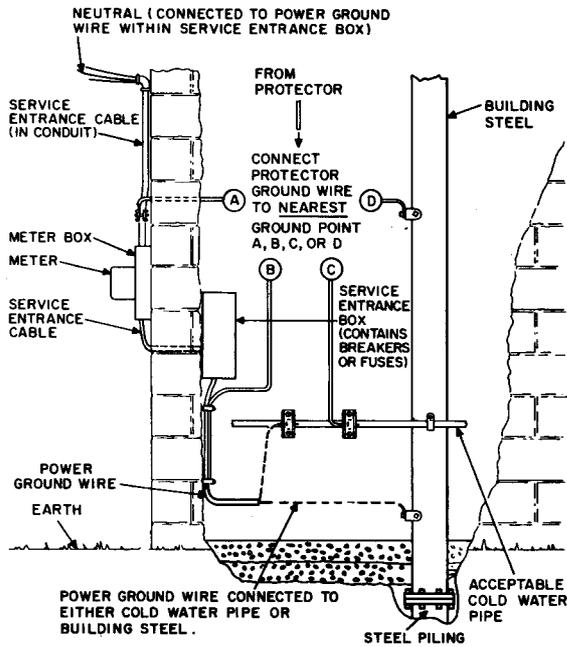

Fig. 35—Acceptable Water System or Building Ground (Power Service Grounded to Cold Water Pipe or Building Steel)
**6.04** Station protectors installed at locations with the power grounded to an acceptable water pipe, as described in 6.01, should be grounded as shown in Fig. 35 or installed directly on the water pipe.
**6.09** Use Table D to select the best protector ground. Table D is designed to help identify the best ground electrode available for most job situations. The decision blocks contain questions regarding the conditions for grounding, the responses to which will lead to the selection of an acceptable ground. The table should be followed until the last block in the path is reached. The referenced notes and figures (Fig. 35 through 41) provide additional information and installation procedures.
**6.11** Some areas have building codes that stipulate the electric service must use a ground rod in addition to a water pipe ground. Where the power is grounded in this manner, it is unnecessary to install a separate ground rod, and the protector should be grounded as shown in Fig. 35.